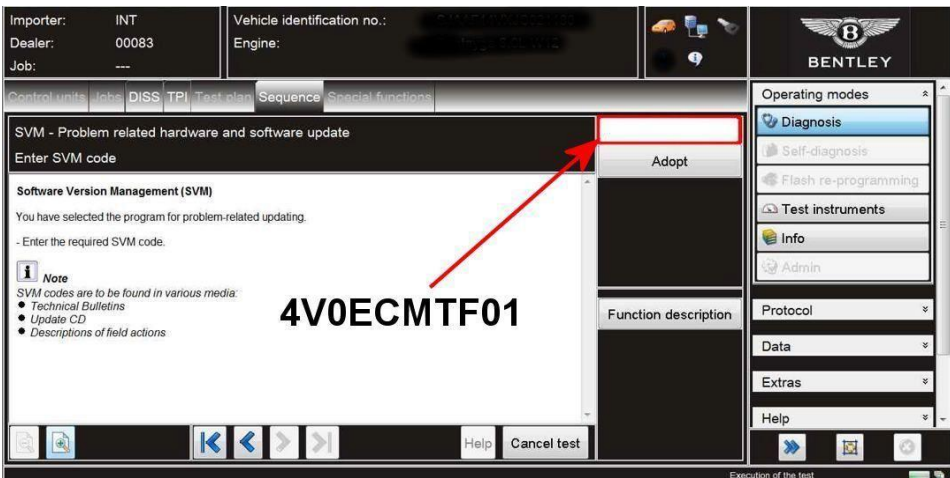

Figure 5
7) On the next screen enter the SVM code 4V0ECMTF01 and select Adopt (Figure 5)